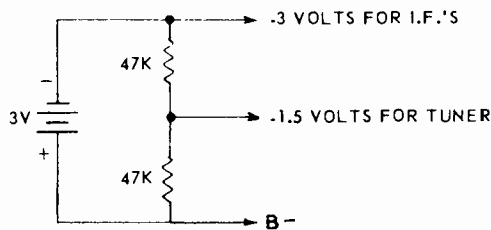

Figure 2 - Bias Supply
3. Apply -3 and -.5 volts bias to points "A" and "T" as shown in Fig. 12. A simple bias source is shown in Fig. 2.